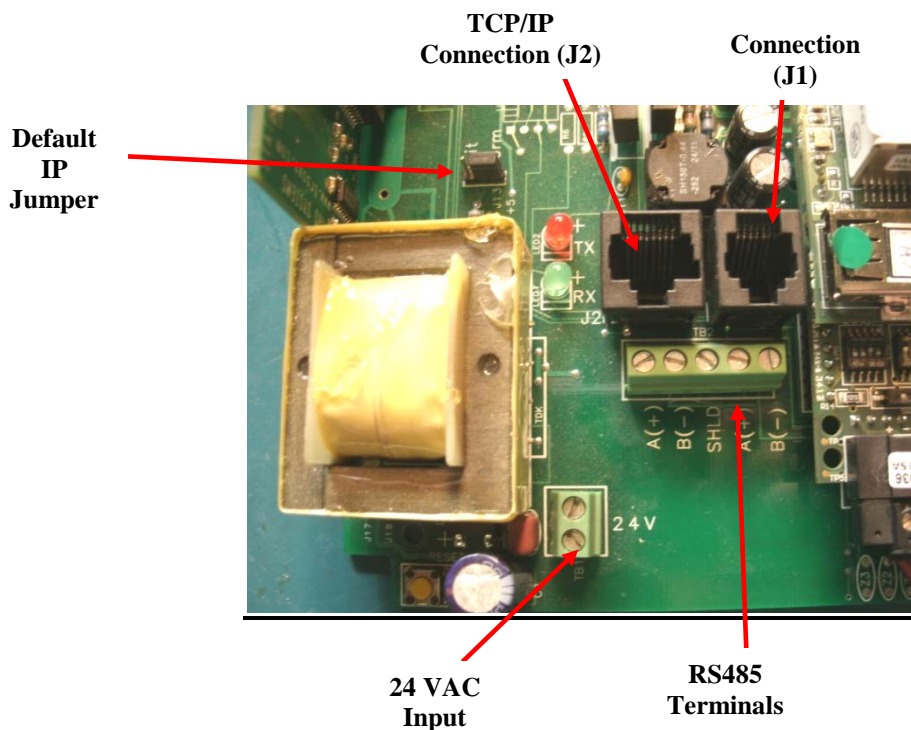

Figure 1
- FTT-10 - Use 20 or 22 gauge shielded twisted pair wire to connect the Transceiver(Terminals “A” & “B”) to the LonWorks network (See Figure 1). The connection of the FTT-10 network is not polarity sensitive and the designation (+) and (-) on the board is not relevant in this case. There are two sets of terminal “A” & “B”. The second set of terminals can be used to extend the FTT-10 network (if needed).